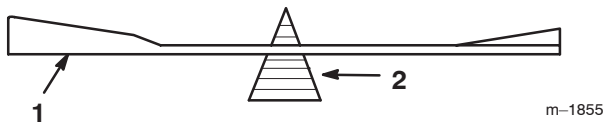

Figure 36
2. Check the balance of the blade by putting it on a blade balancer (Fig. 36). If the blade stays in a horizontal position, the blade is balanced and can be used. If the